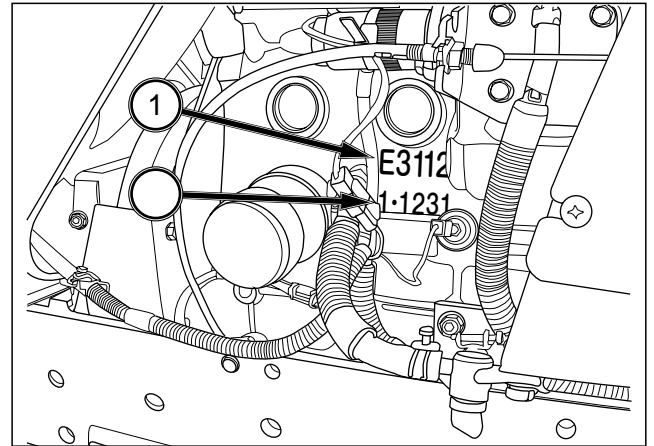

FIG. 2-4
- NUMERO DE MODELE DU MOTEUR (Fig. 2-4 (1)).
- NUMERO DE SERIE DU MOTEUR (Fig.2-4 (2))